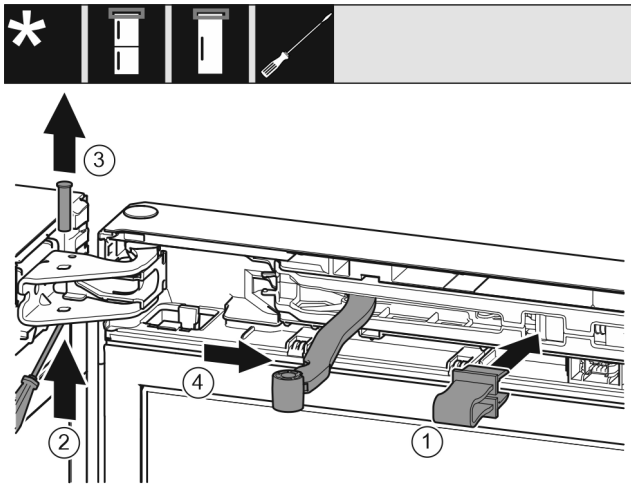

Fig. 11
- ▶ Snap the locking device Fig. 11 (1) into the opening.
- ▶ Pull out the pin Fig. 11 (2).
- ▶ Pull out the pin Fig. 11 (3) upward.
- ▶ Turn the joint Fig. 11 (4) towards the door.